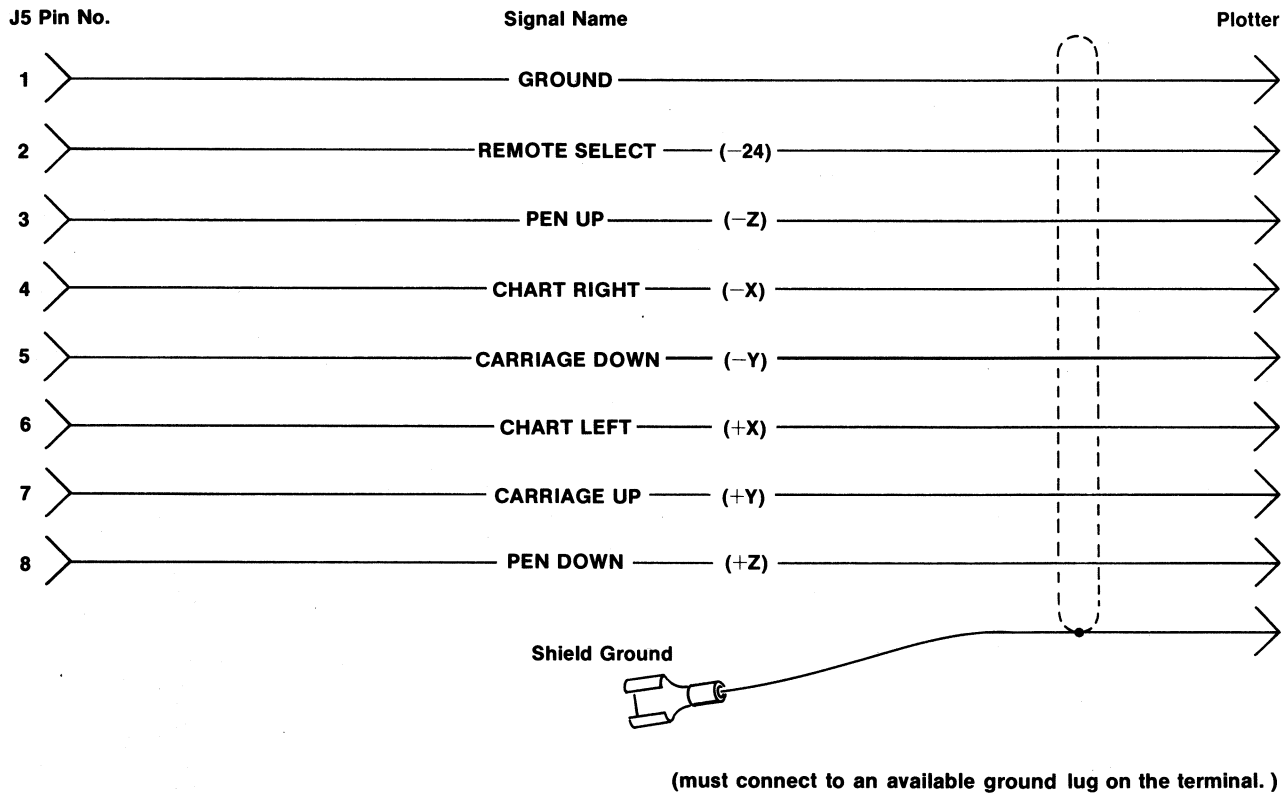

Fig. F-2. Plotter connector description.
**Cabling.** Fig. F-2 lists the optional interconnecting cable pin assignments. The plotter cable connects to J5 on the Discrete Plot circuit card that in turn connects to the Terminal minibus. The cable is then routed through the opening in the back of the pedestal and fastened to the sill with a cable clamp. The other end of the cable is connected to the plotter. Apply power to equipment and make any necessary adjustments. See the following for information on strap options and adjustments.